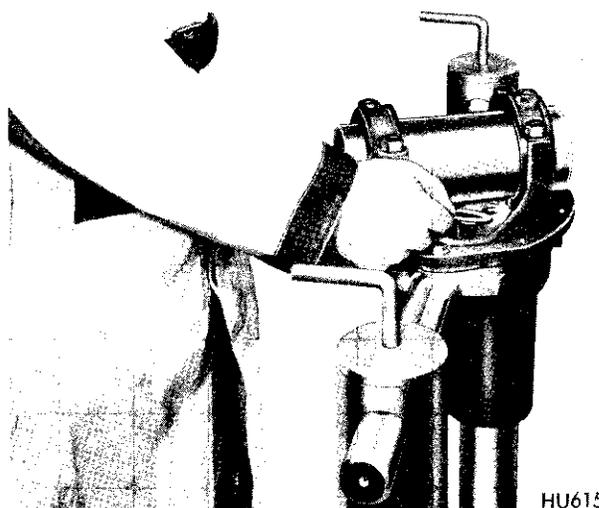

Fig. 29—Determining Spacer Thickness
(7) Select a rear pinion bearing mounting shim which will fit between cross arbor and gauge block. This fit must be snug but not too tight (similar to the pull of a feeler gauge. (Fig. 29). This shim is then used in determining the correct thickness shim for installation.
(8) To select a shim for installation, read the marking on end of pinion head (-0 , -1 , -2 , $+1$, $+2$, etc). When marking is $-$ (minus) add that amount to the thickness of shim selected in step (7). When the marking is $+$ (plus), subtract that amount. Example: With a shim .036 inch thick and a pinion marked -2 , install a shim .038 inch thick ($.036 + .002 = .038$). Example: With a shim .036 inch thick and a pinion marked $+2$, install a washer .034 inch thick, ($.036 - .002 = .034$) or when a shim .036 inch thick is too loose and .038 inch too thick, use .036 inch shim. Treat other pinion markings in a similar manner. Shims are available in one thousandths of an inch increments.
(9) Remove differential bearing caps and remove tool arbor from carrier.